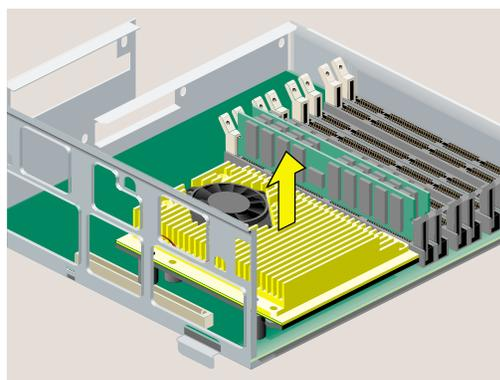

Figure 6 Removing the R10000 or R12000 CPU Module
8. Grasp the CPU module on both sides and gently rock it out (Figure 6). Do not exaggerate the rocking motion, or you will bend the pins. Set the CPU module aside.